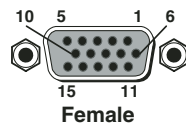

Figure 4. 15-pin HD Connector
- ② **Input video connector** — Connect a computer video source to this 15-pin HD connector for high resolution video input (see figure 4).